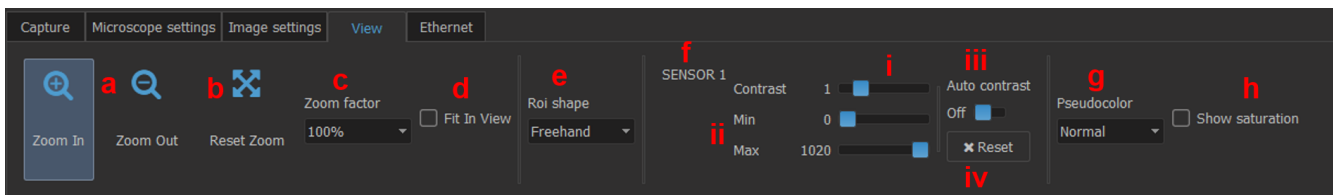

Figure 4.8: View Tab
- a) The **Zoom In/Zoom Out** buttons (Fig. 4.8) will increase/decrease the zoom of the sensor image.
- b) The **Reset Zoom** button (Fig. 4.8) will reset the **Zoom factor** to 100%.
- c) The **Zoom Factor** drop-down list (Fig. 4.8) allows the selection of a zoom factor from a pre-set list. The box will also display the current zoom if it was changed using different buttons.
- d) The **Fit In View** button (Fig. 4.8) resize the image to fit the size of the Image Viewer box.
- e) The **Roi shape** drop-down list (Fig. 4.8) allows the selection of the shape used when drawing a **Region Of Interest** onto a sensor image. These shapes include **Freehand, Circle, Rectangle** and **Square**.
- f) The **SENSOR** section (Fig. 4.8) is used to adjust contrast on a given sensor. When a microscope used has multiple sensors, multiple **SENSOR** sections will be displayed, one for each sensor.
- i. The **Contrast** slider (Fig. 4.8) allows the adjustment of contrast from 0.1 to 5.
- ii. The **Min/Max** sliders (Fig. 4.8) indicate the minimum/maximum number of counts displayed. Should the **Min** be above 0, all pixels with lower count will display a minimal value. Should the **Max** be below 1020, all pixels with a higher count will appear saturated.
- iii. The **Auto contrast** slider button (Fig. 4.8) will activate an automatic contrast adjustment algorithm.
- g) The **Pseudocolor** drop-down list (Fig. 4.8) allow the sensor image color palette to be changed.
- h) The **Show saturation** checkbox (Fig. 4.8) allows all saturation on the sensor image to be displayed in red. This function is only available if no pseudocolor is selected.